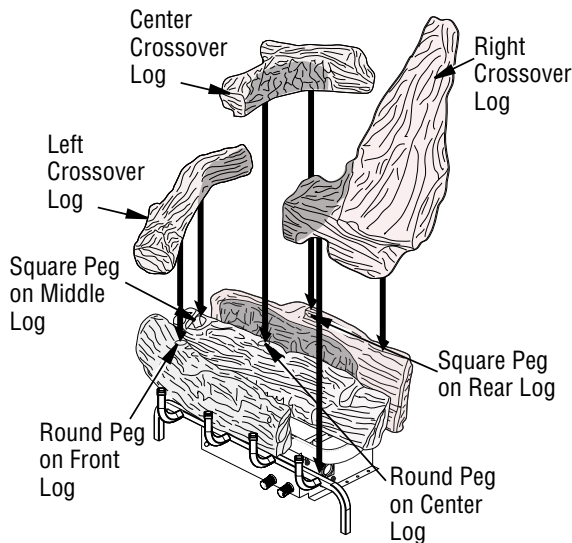

Figure 20 - Installing Left, Center and Right Crossover Logs
- Place left crossover log as shown in **Figure 20**. Match square peg on top of center log with square hole on bottom of left crossover log. Match pin on top of front log with round hole on bottom of left crossover log.
- Place center crossover log as shown in **Figure 20**. Match square peg on top of rear log with square hole on bottom of center crossover log. Match pin on top of center log with round hole on bottom of center crossover log.
- Place left front crossover log as shown in **Figure 20**. Log should rest on the grate and fit into recess area on the center log.